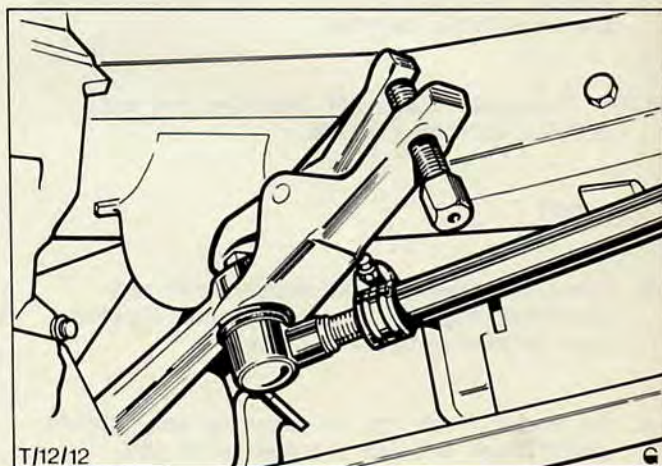

Fig.38. Remove drag link ball joint from steering arm.
2. Remove split pin and slacken castellated nut securing drag link to steering arm, using service tool 13 006 remove ball joint Fig.38.